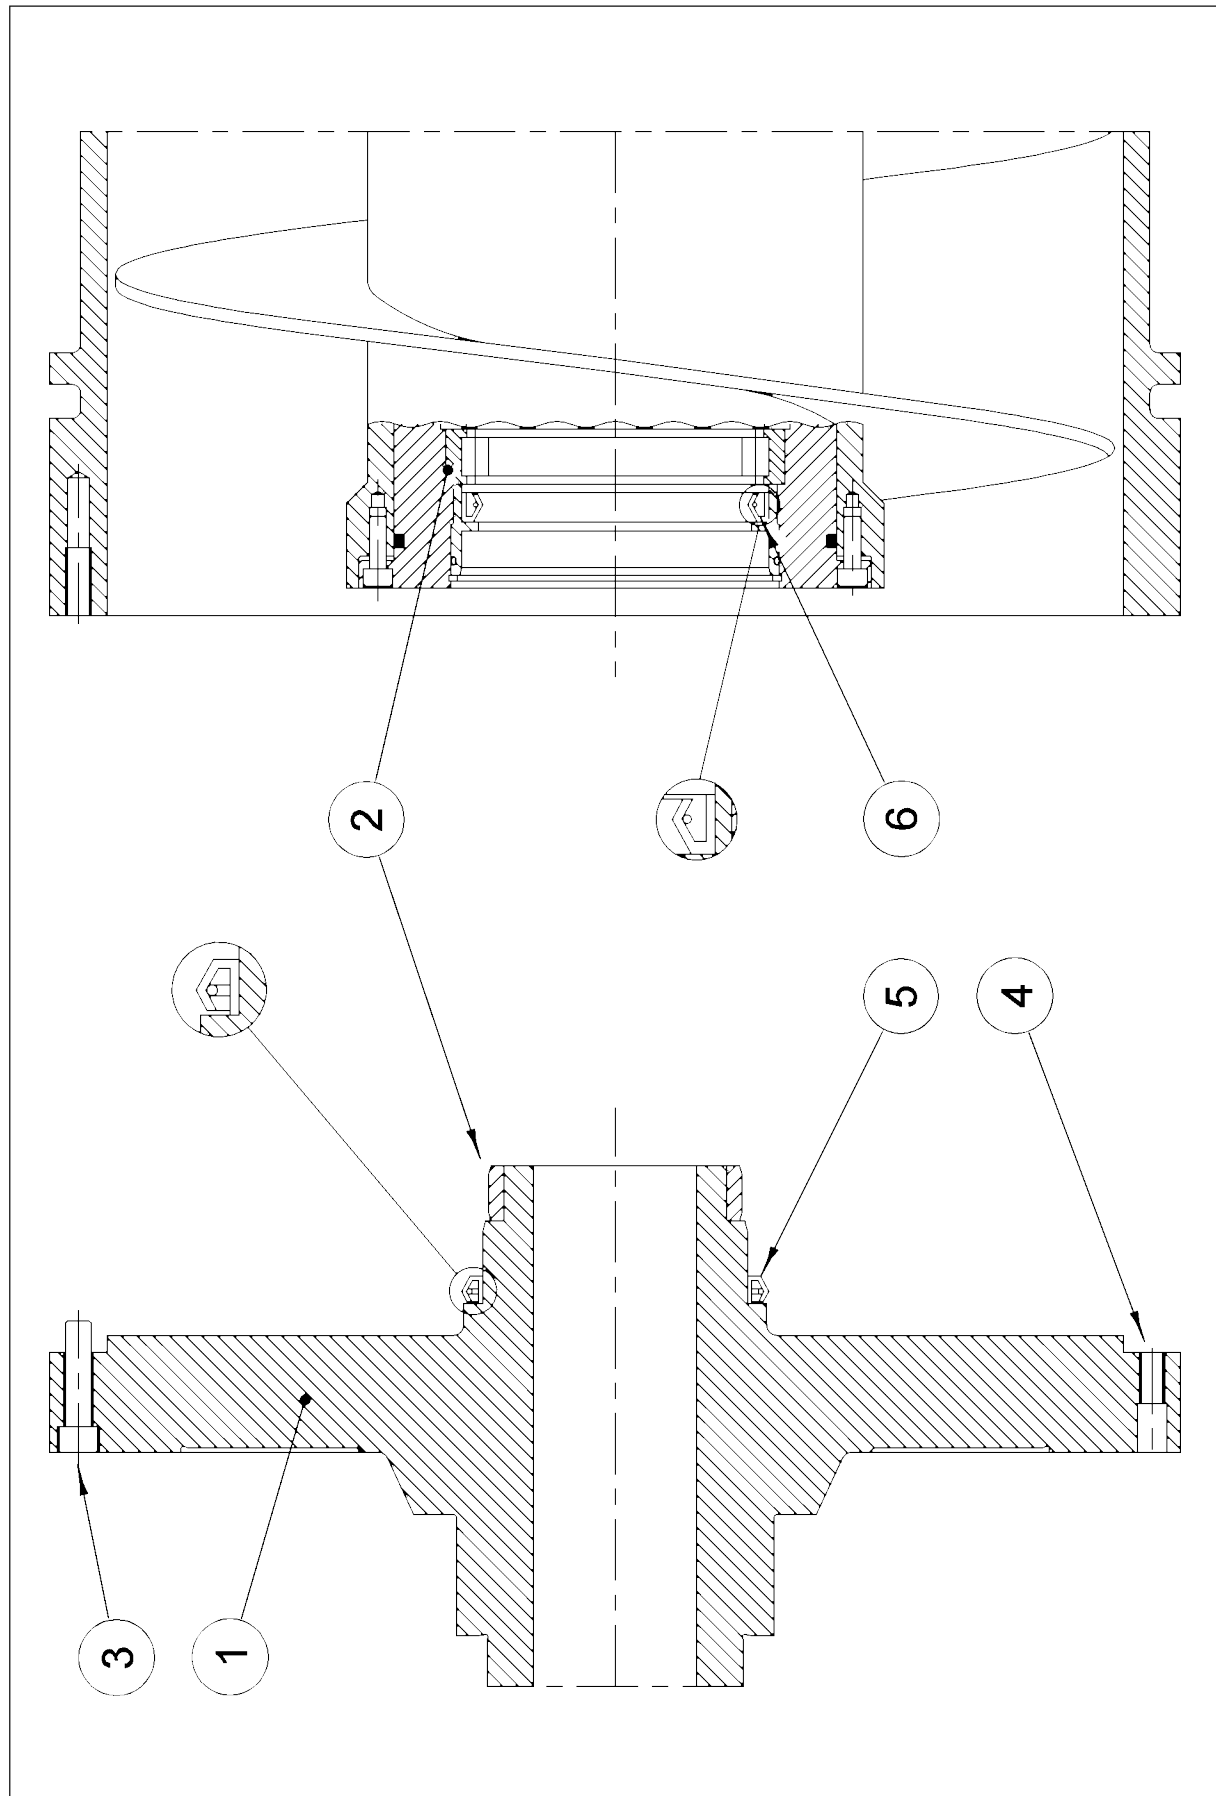

Figure 4.1.4
4.1.3 Remove Large End Hub (Fig. 4.1.4)